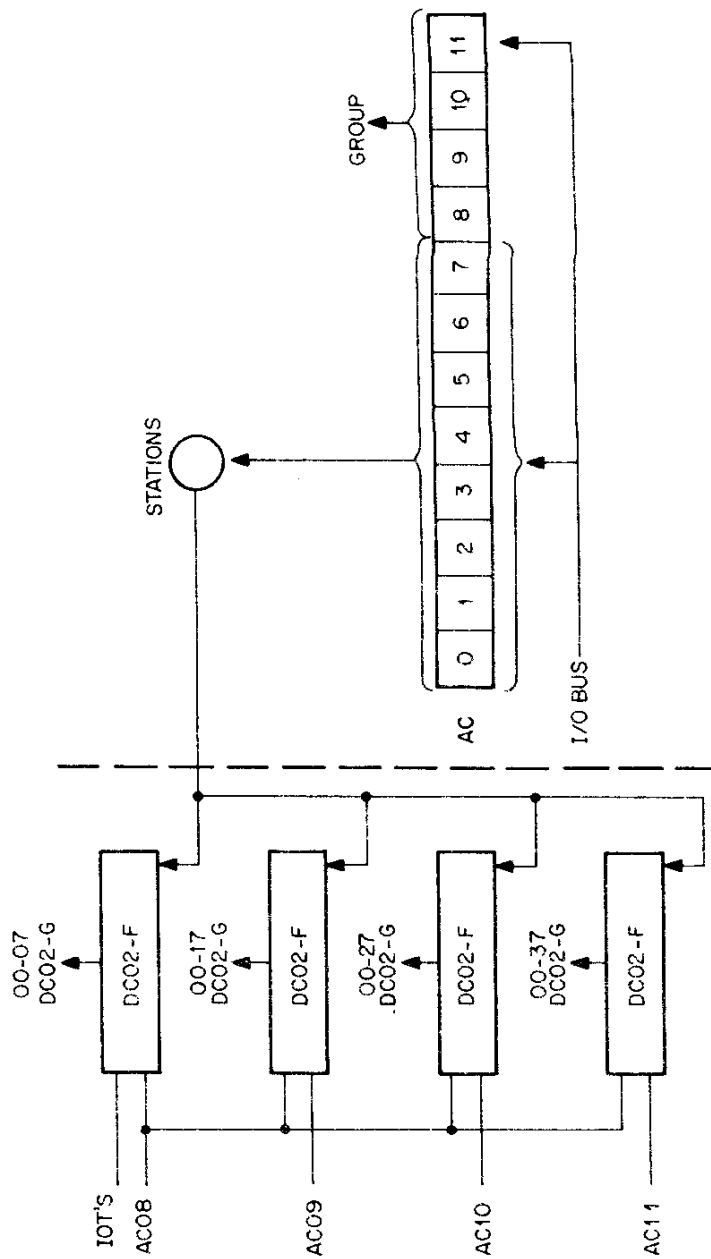

Figure 7-30 Station Selection Operation
Bits 8-11 of the accumulator select the DC02-F control which controls up to eight (8) stations (Figure 7-30). Bits 0-7 of the accumulator select the station within the DC02-F (Figure 1B). Data in the accumulator can be transmitted simultaneously to more than one station, but data from only one station can be received into the accumulator at any given time. Each station has two status flags, a receiver and a transmitter flag. When the receiver flag is set, it indicates that an eight (8) bit word has been assembled in the receiver register and is ready for transfer into the accumulator. When the transmitter flag is set, it indicates that an 8-bit word has been transmitted and the station is ready to transmit another word.
- \* AC bits 8-11 select the group (Figure 7-30).